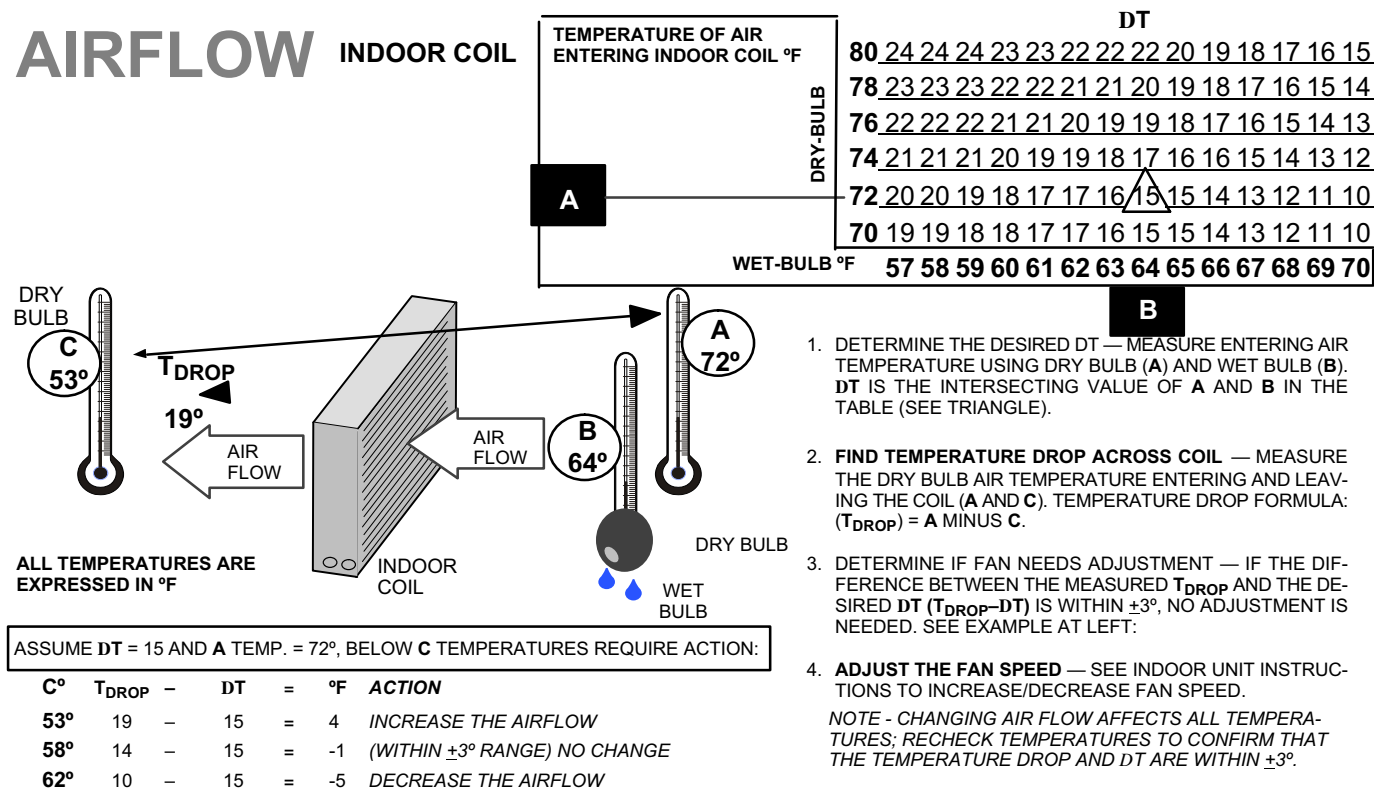

Figure 56. Checking Indoor Airflow over Evaporator Coil using Delta-T Chart
2. Check and adjust indoor airflow as described in figure 56.
Check airflow using the Delta-T (DT) process using the illustration in figure 56.